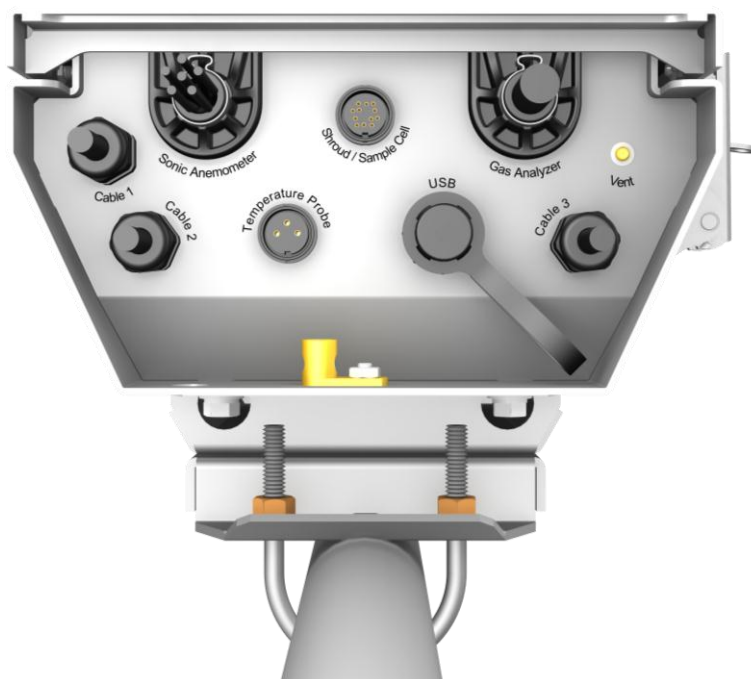
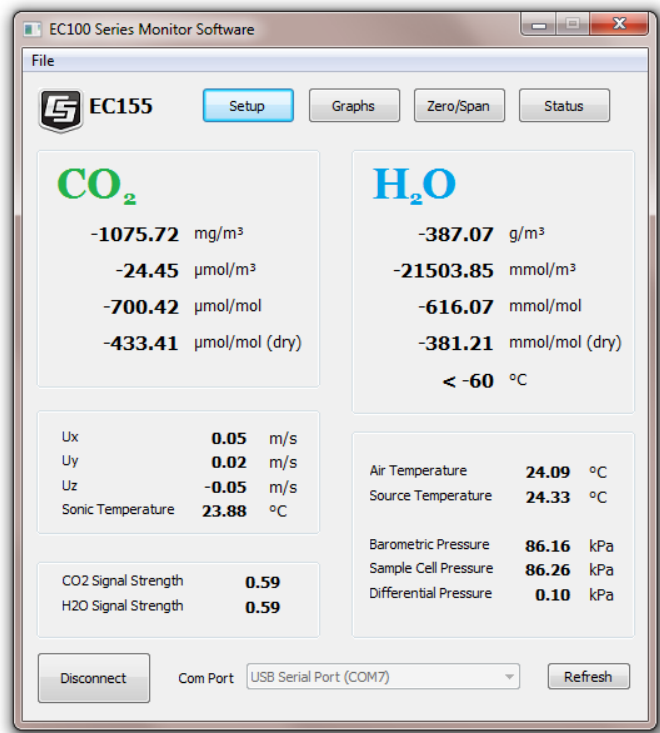
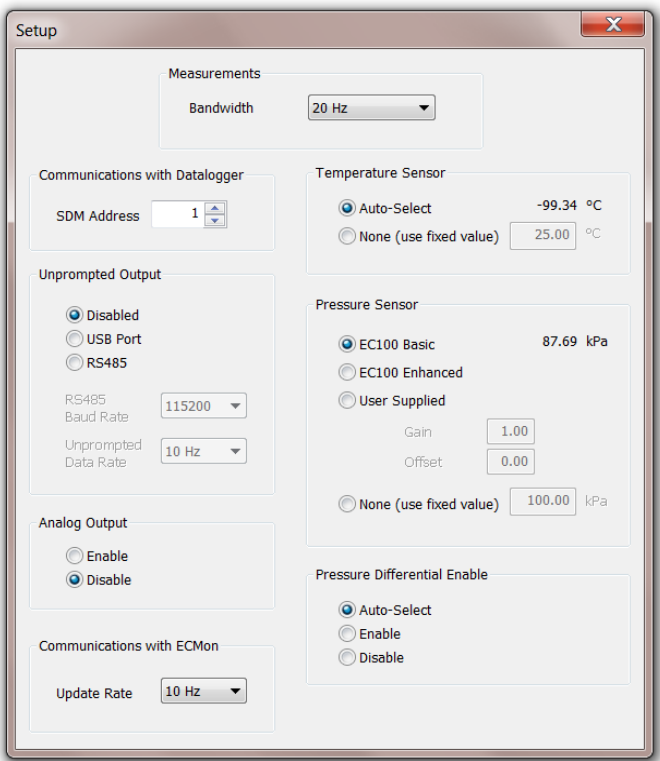

Figure 6-6. Bottom of EC100 enclosure
Figure 7-1. The Main window of ECMon
Figure 7-2. The Setup window in ECMon
Figure 6-5 and Figure 6-6 below show EC100 electronics panel and the bottom of the EC100 enclosure, respectively. Refer to these figures during wiring and connecting.
- a. Connect the EC155 gas analyzer head. Begin by removing the black rubber cable entry plug (p/n #26224) on the bottom right of the EC100 enclosure. (This plug can be stored in the mesh pocket of the enclosure). Now insert the cable entry plug that is attached to the large cable of the EC155 gas analyzer head into the vacant slot. Push the connector at the end of the cable onto its mating connector (labelled *Gas Analyzer*) and tighten the thumbscrews (see Figure 6-6). The EC155 gas analyzer cable is approximately 3 metres in length.
Before installing ECMon, read the file titled *Read.me.text* found on the *EC150 & EC155 Support CD*. This will direct the user to install USB drivers (also found on the Support CD), which are required for communications between the PC and the EC100 via the EC100 USB cable (p/n #26561). Once the drivers are installed, download and run the ECMon.exe install file. Launch ECMon, and connect the EC100 electronics to the PC with the included EC100 USB cable (p/n #26561). The USB connection for the EC100 electronics is found on the bottom of the enclosure (see Figure 6-6). Once connected, select the appropriate communications port in the ECMon Main Page and click **Connect** (see Figure 7-1). Next click on the **Setup** button. All of the above settings are now available for the user to change (see Figure 7-2).